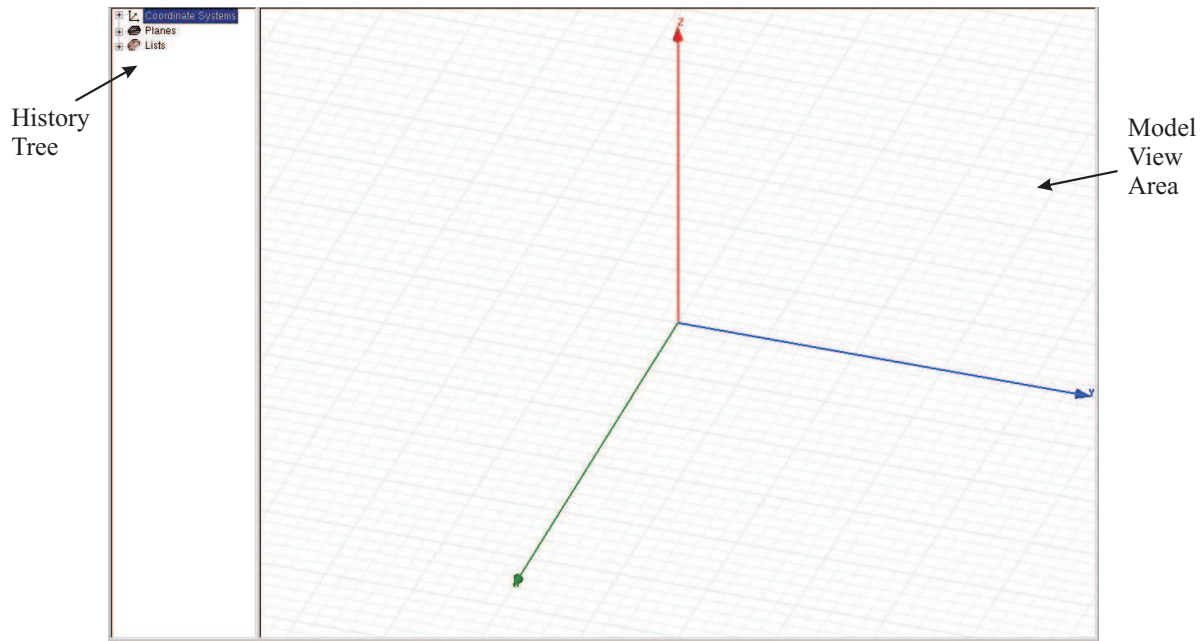

Figure 2: *3D Modeler Window, which consists of the model view area and the history tree.*
- **3D Modeler Window** This is the area where you create the model geometry. This window consists of the model view area (or grid) and the history tree as shown in Figure 2. The history tree documents the actions that have been taken in the model view area, and provides an alternative way to select objects in the model view area.